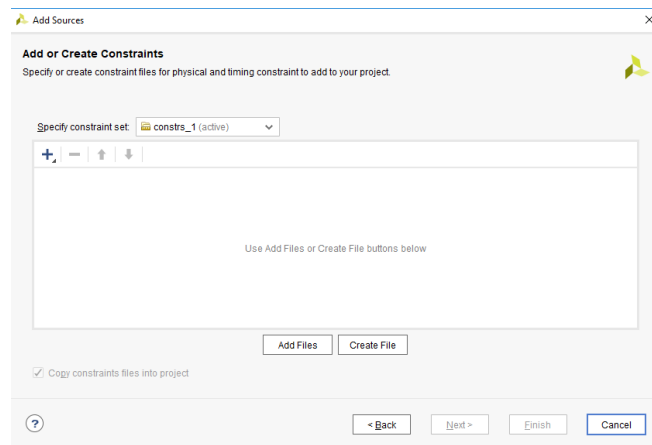

Figure 8: Add Constraint File
2. In the "Add or Create Constraints" dialog box (see Fig. 8), select "Add Files".